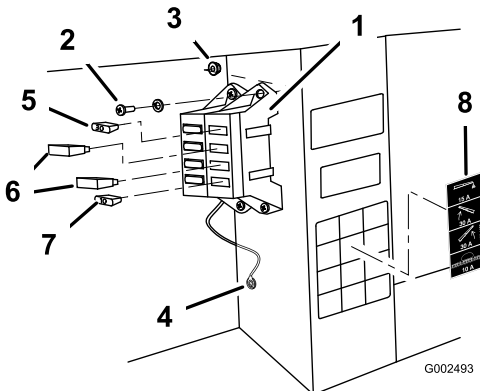

Figure 8
5. Connect the black ground wire to the existing 1/4 inch bolt on the interior side of the vehicle frame, using the star washer (Figure 8).
7. Install the fuse block and harness to the frame along side the existing fuse block, using the two screws (#10-24 x 3/4 inch) and two locknuts (#10-24) as shown in Figure 8.
- A. Install the 15 amp fuse to the foam marker fuse slot (Figure 8).
- B. Install the two 30 amp thermal breakers to the left and right boom lift fuse slots (Figure 8).
- C. Install the 10 amp fuse to the spray system power fuse slot (Figure 8).